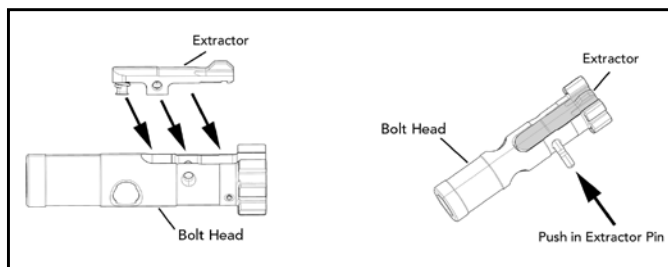

Fig. 43 – Bolt Head reassembly
- b. Insert the extractor with spring and buffer into the bolt head. Place pressure on the back of the extractor, line up the mounting surfaces and install the extractor pin. Ensure the extractor pin is centered in the bolt head before attempting to install the bolt head into the bolt carrier (Fig 43).